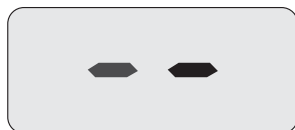
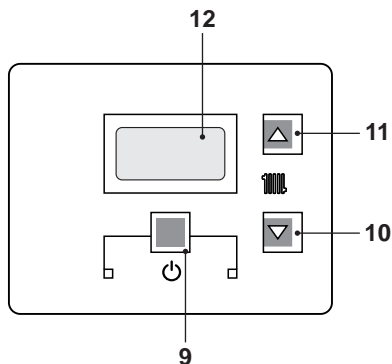

Fig. 7.7
Fig. 7.8
- Electrically power the boiler by switching on the double pole isolation switch. The LCD will display, the  symbol (Fig. 7.7).
- Press the 9key for 2 seconds until  symbol appears on the display Fig. 7.8.
- Switch off the boiler by pressing the 9(Fig. 7.8)key for 2 seconds until the  symbol appears on the LCD display (Fig. 7.7).
Press the reset key on the boiler control panel 9(Fig. 7.8) to reset its functioning.